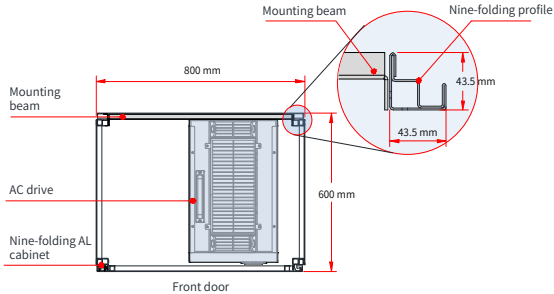

Figure 3-15 Top view of a 200–450 kW cabinet
- 1) A nine-folding AL cabinet (PS cabinet) is recommended. Figure 3-15 shows the cross section of the nine-folding AL cabinet.